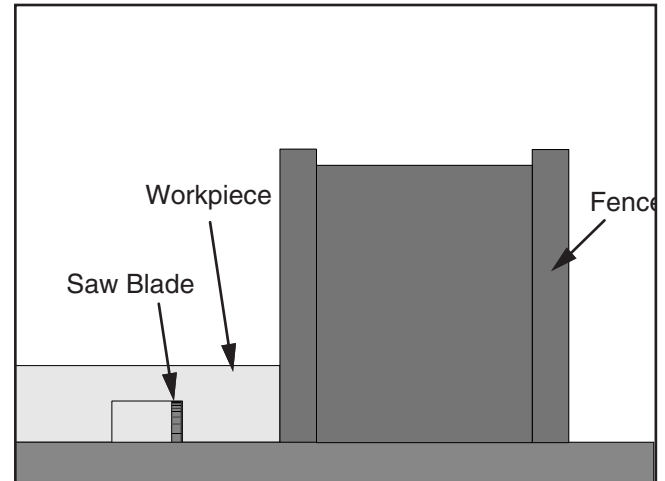

Figure 42. Single-blade dado first cut.
5. If dadoing the length of a workpiece, align the blade to cut one of the dado sides as shown in **Figure 42**.